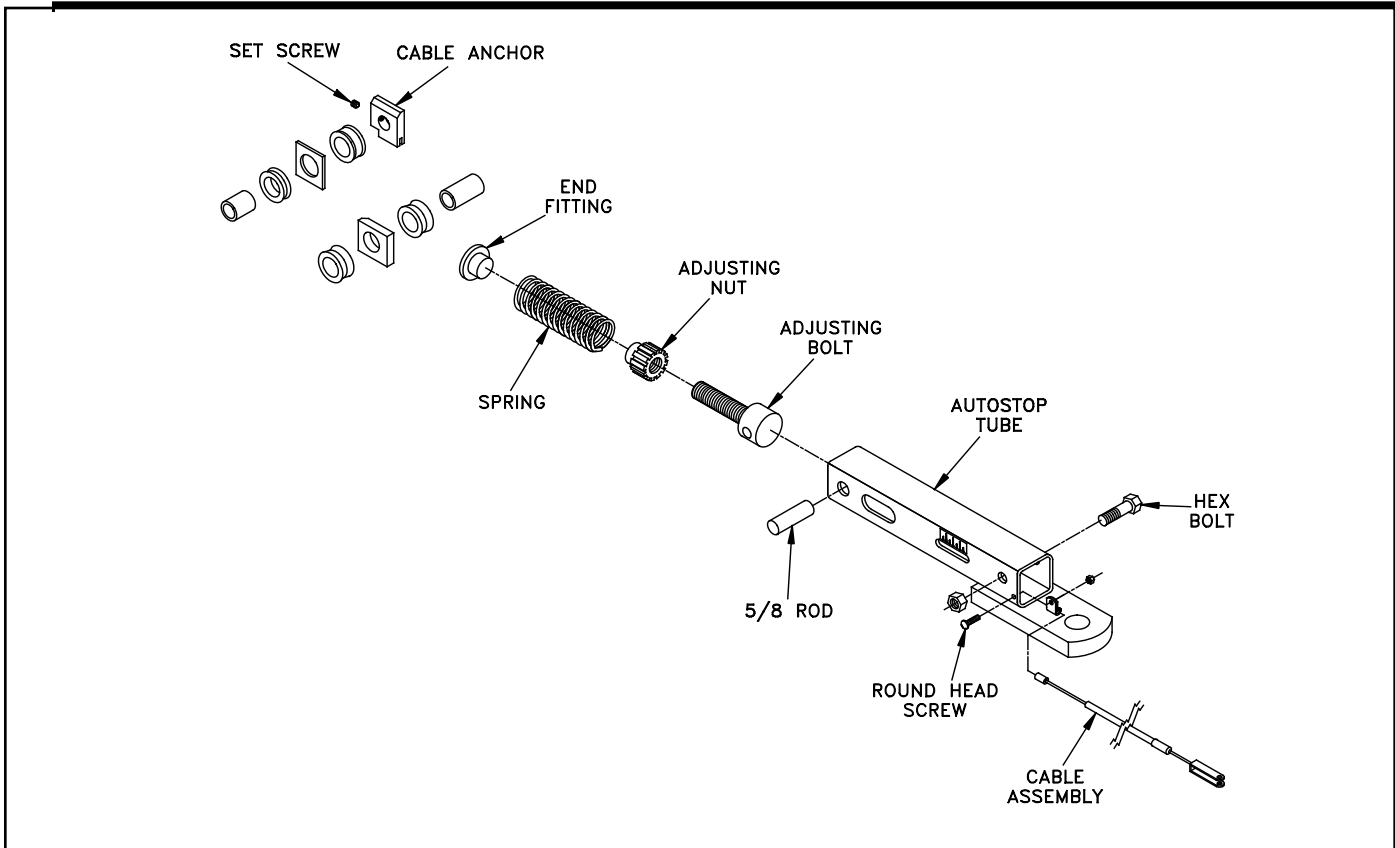

Figure 10
1. Remove the AutoStop from the receiver hitch. Remove the hex bolt. (Figure 10)